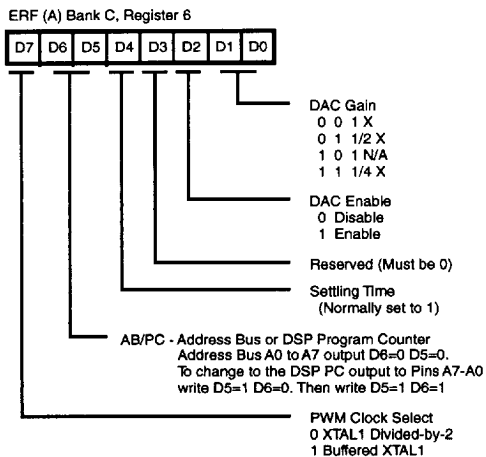

Figure 37. DAC Control Register
The DAC is controlled by the Z8. Its two registers (Control 1 and Data 1) are mapped into the ERF (Figures 37 and 38). The Data 1 register is writable by the DSP.
The clock source for the PWM is programmable providing the user access to a higher frequency clock versus using the internal clock. The clock source is selected using Bit 7 of the DAC control register (ERF(A) Bank C, Register 6). D7=1 selects a buffered XTAL1 clock, D7=0 selects XTAL divided-by-2 (Figure 37).